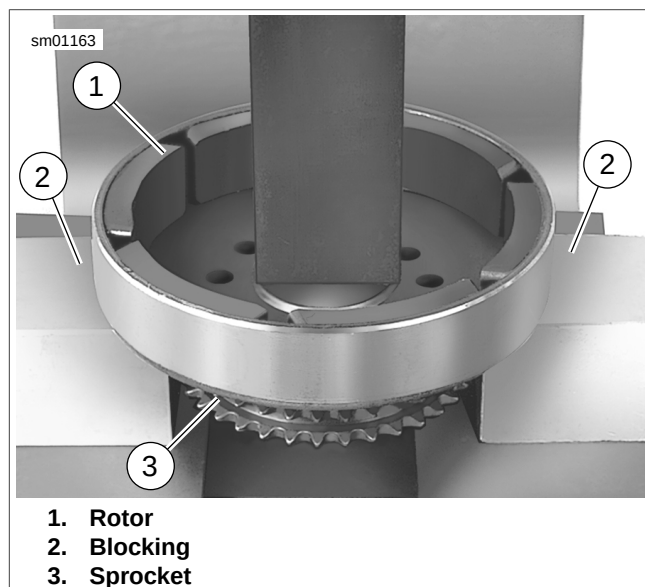

Figure 6-100. Removing Rotor from Sprocket
2. See Figure 6-100. Position blocking (2) under rotor (1). Press sprocket (3) free of rotor.